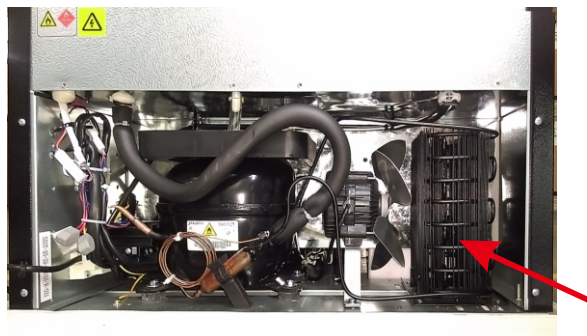

Figure 7: Identify the condenser
Step 3: Locate the condenser and examine it for dust and debris. See Figure 7 above.